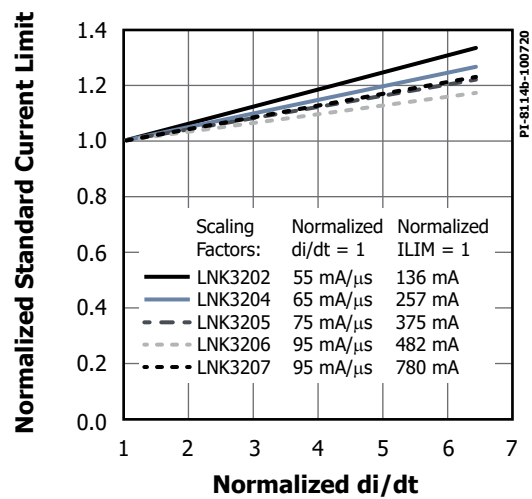

Figure 21. Default Current Limit vs. di/dt.
- D. For current limit at other di/dt values, refer to Figures 21 and 22.